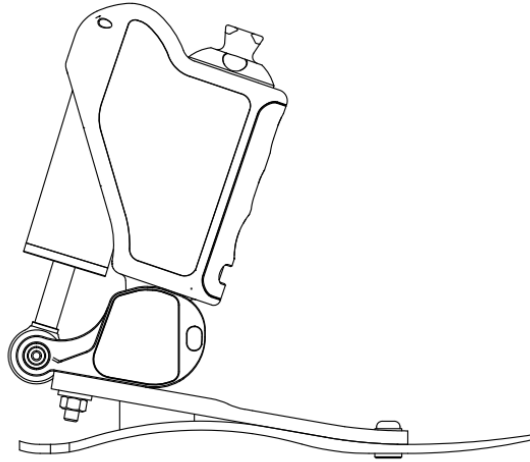

Figure 4: Prosthesis position in dorsal flexion.
**Activation/Deactivation** is performed using both the gesture and the application in the Modes panel, as described in the *section 3.10*. To change the state (enable or deactivate the mode) using a gesture (see Figure 4), hold the prosthesis in maximum dorsal flexion for 10 seconds.